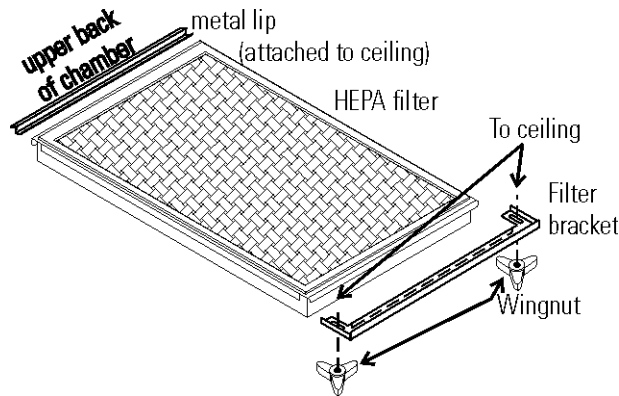

Figure 1-11. HEPA Orientation for Model 3307/3308
3. Loosen black wingnuts in front corners of the chamber ceiling (Figure 1-11 or 1-12).